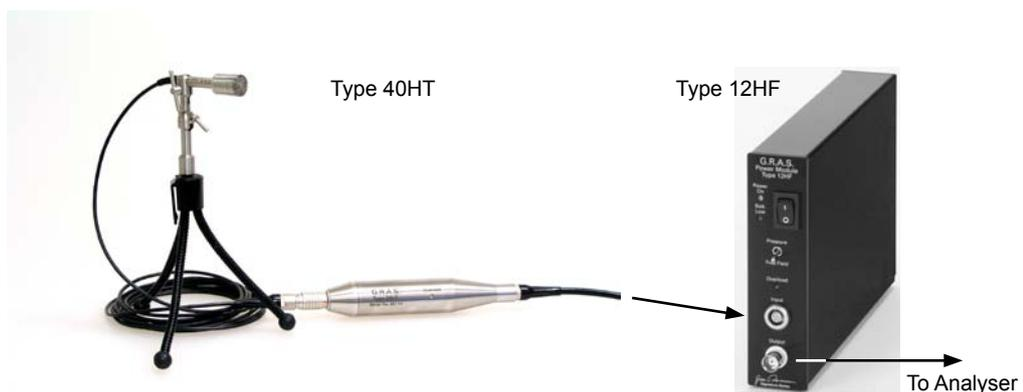

Fig. 1.3 A Single-channel Low-noise Measuring System as described in this document, shown here with Tripod and Tripod Adapter (both available from G.R.A.S.)
Fig. 1.3 shows a Single-channel Low-noise Measuring system (as described in this document) and consists of:
1. Connect the Type 40HT via its LEMO plug to the LEMO input socket of the Type 12HF (see Fig. 1.3).
2. Connect via a suitable cable the BNC output of the Type 12HF (see Fig. 1.3) to the analyser to be used and switch both Power Module and analyser on.
1. Assemble the system as shown in Fig. 1.3.